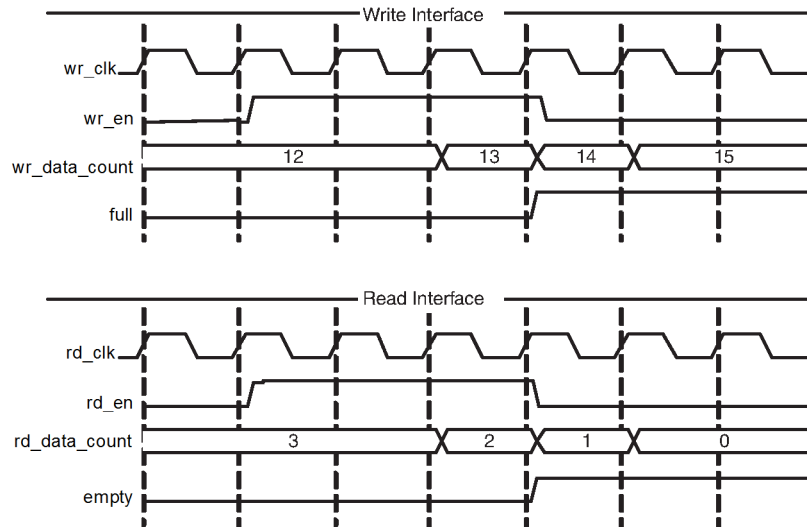

Figure 3-12: Write and Read Data Counts for FIFO with Independent Clocks
Figure 3-12 shows write and read data counts. When `wr_en` is asserted and `full` is deasserted, `wr_data_count` increments. Similarly, when `rd_en` is asserted and `empty` is deasserted, `rd_data_count` decrements.
**Note:** In the first part of Figure 3-12, a successful write operation occurs on the third rising clock edge, and is not reflected on `wr_data_count` until the next full clock cycle is complete. Similarly, `rd_data_count` transitions one full clock cycle after a successful read operation.